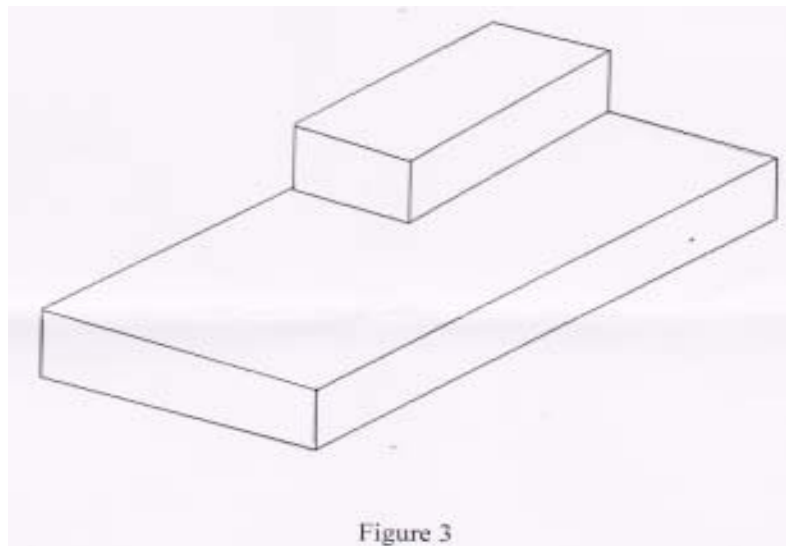

Figure 3
b) Use Waltz algorithm to fully describe the below figure (Figure 3): [10]